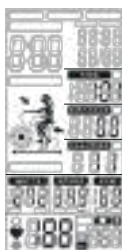

Figure 48
- ⑤ When Heart Rate exceeds to 85%, 65% & 85% value will flash. And buzzer sounds in every 10s until user HR goes below 85% (Figure 48).